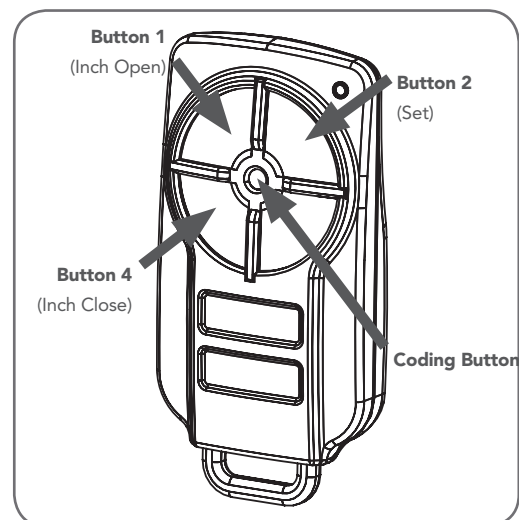

Fig 11.2
- When the shutter is at the desired close position, press the SET button to record the close limit position. The display will change and the green open LED will start to flash (**Fig. 11.2**).
In order to use a transmitter to set the limits, it must first have at least one of its buttons coded to the logic console. The function assigned to the transmitter's buttons is of no concern here as the buttons are temporally assigned to OPEN, CLOSE and SET (Fig. 11.2).